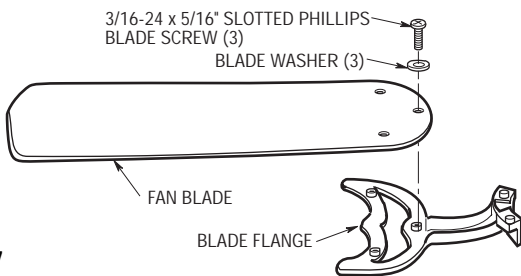

Figure 7
- 9. Mount blade flanges to fan blades using three 3/16-24 x 5/16" slotted Phillips blade screws and three blade washers (Figure 7).